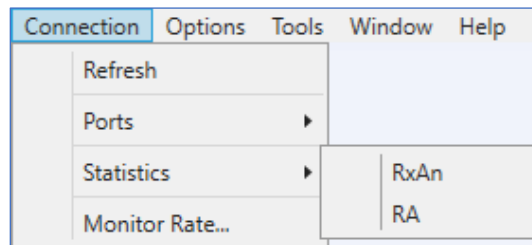

Figure 101: Connection Menu, Statistics Drop Down Menu
- Statistics – This option is a diagnostic tool primarily used by Quasonix to access communication statistics sent between the RA hardware and the RxAn GUI. Use the drop down menu to select statistics for the RxAn or the target RA, as shown in Figure 101.